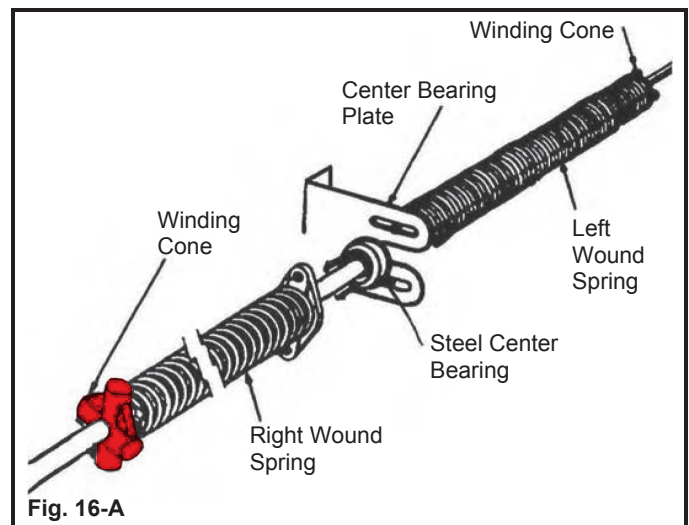

Fig. 16-A
- From left to right, inside the garage facing out, parts should be: left side spring (right wound) with stationary cones facing the center of the door, steel center bearing, center bearing plate, right side spring (left wound) with stationary cones facing the center of the door (Fig. 16-A).